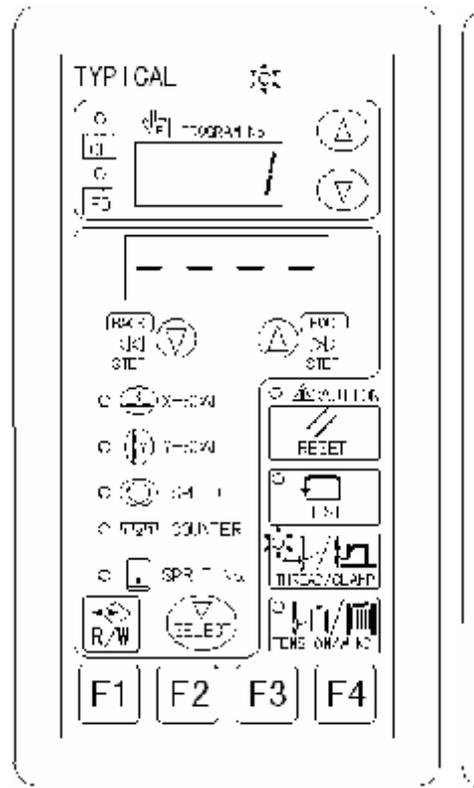

Fig. 4-2
1. Press  key to enter threading mode (as shown in Fig. 4-2). Then the  SPEED light goes out, the  key indicator light is on; losing electromagnet is actuated, the presser foot frame and the middle presser foot are pressed down, the main axis motor is unlocked, thus the main axis motor is rotated by hand-wheel. Now the threading motion can be performed.